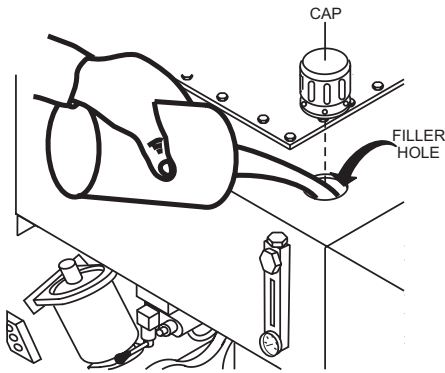
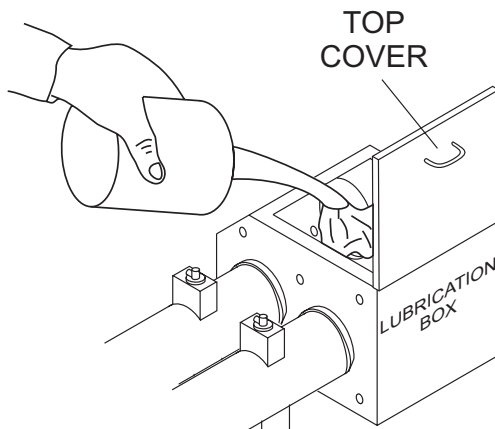

Figure 14. Adding Hydraulic Oil (Filler Hole)
Figure 15. Filling the Lubrication Box
2. If the hydraulic oil level is low, remove the hydraulic oil tank cap just above the oil level sight glass (Figure 14) and add the correct amount of hydraulic oil to bring the hydraulic oil level to a normal safe operating level. Use Shell oil Tellus 68 or Mobil oil DFE26.
3. Check the oil level in the **lubrication box** (Figure 15). If low, fill with up to 3 gallons of SAE #30 motor oil (Figure 14). The oil level must be checked daily. The lubrication box should be serviced as described in the maintenance section.